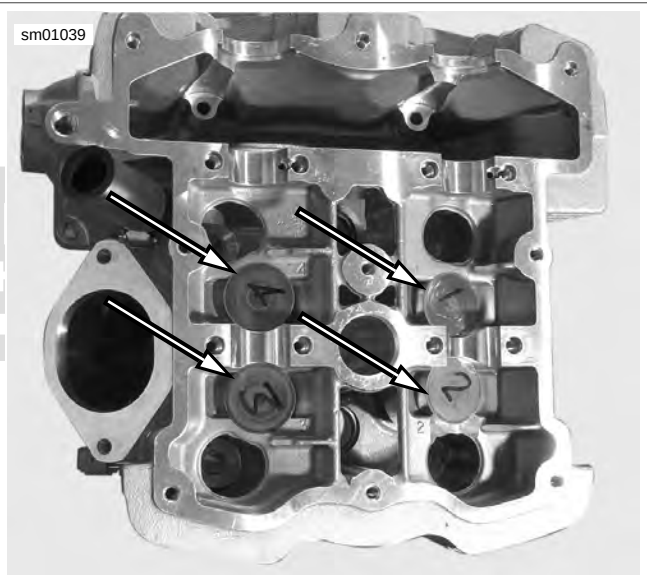

Figure 3-58. Number Tappets
1. See Figure 3-58. Clean oil film from tappets and use marker to number tappets according to the cast in number at each valve. Remove tappets and shims and keep together for assembly in same position.